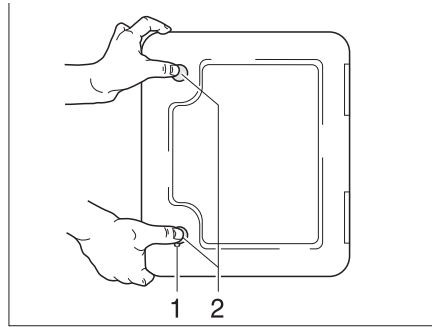

Fig. 140 Flap for Thetford cassette
The flap for the Thetford cassette (Fig. 140) is located on the outside of the vehicle.
- Insert key into locking cylinder of the push-button lock (Fig. 140,1) and turn a quarter turn clockwise.
- Press both push-button locks (Fig. 140,2) simultaneously with your thumb and open the flap for the Thetford cassette.